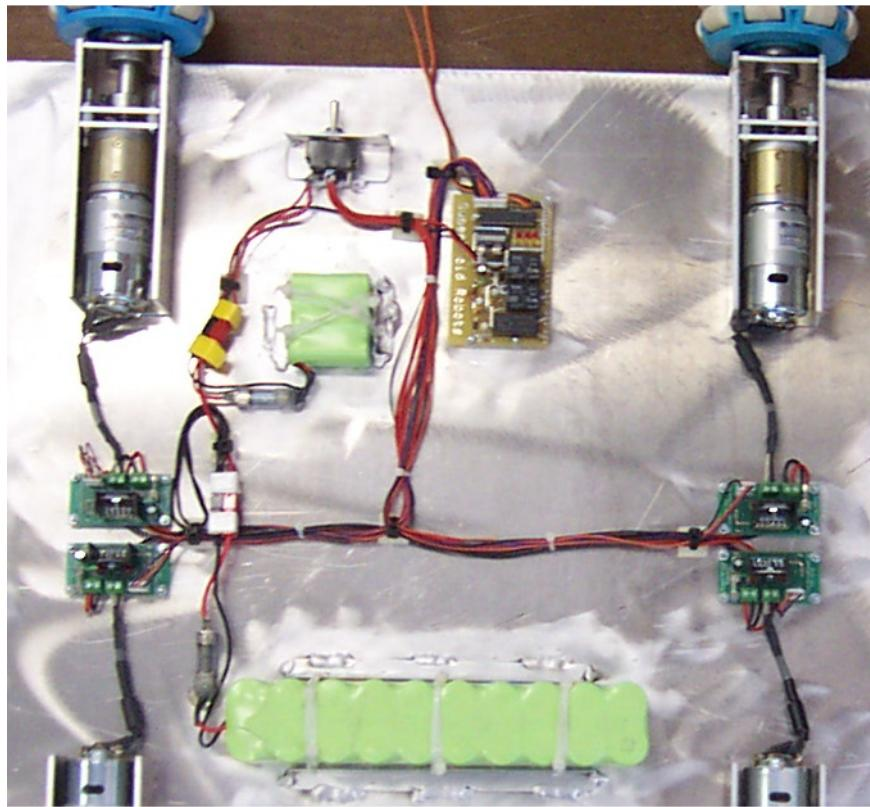
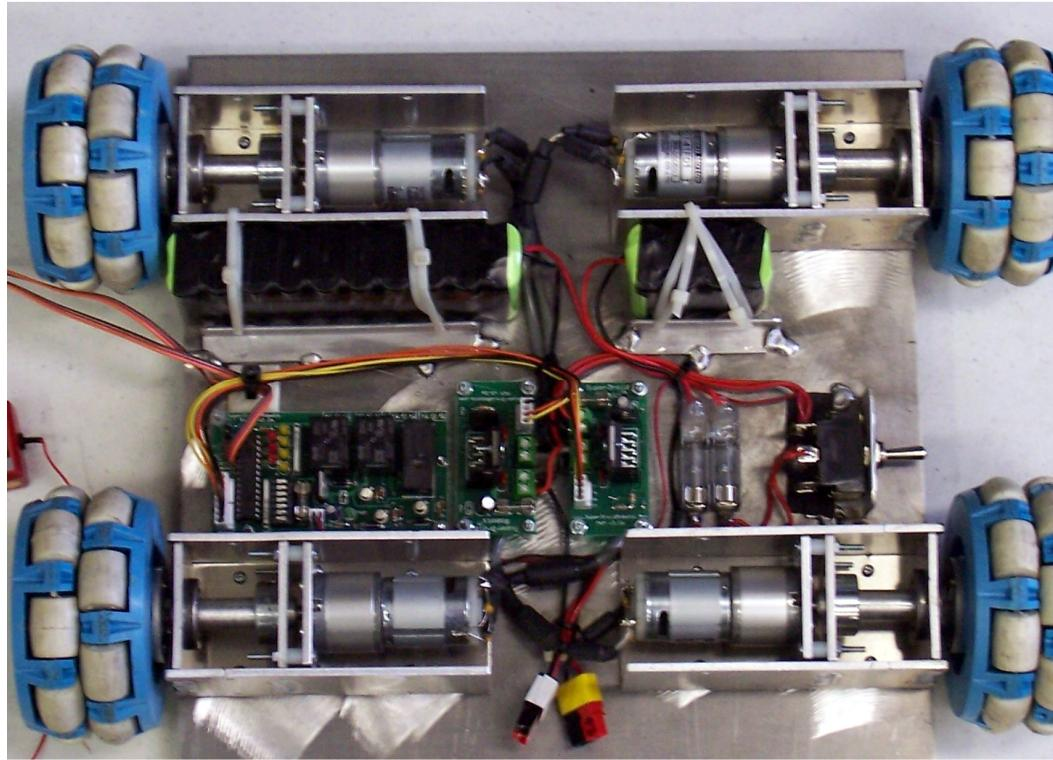
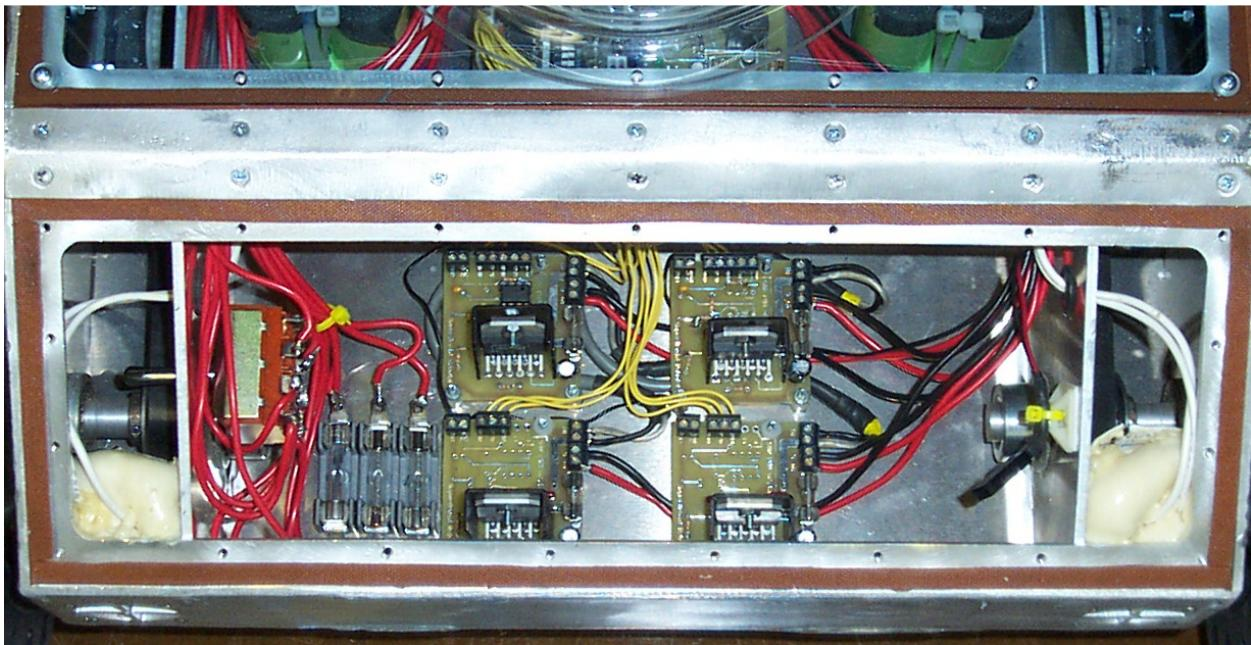
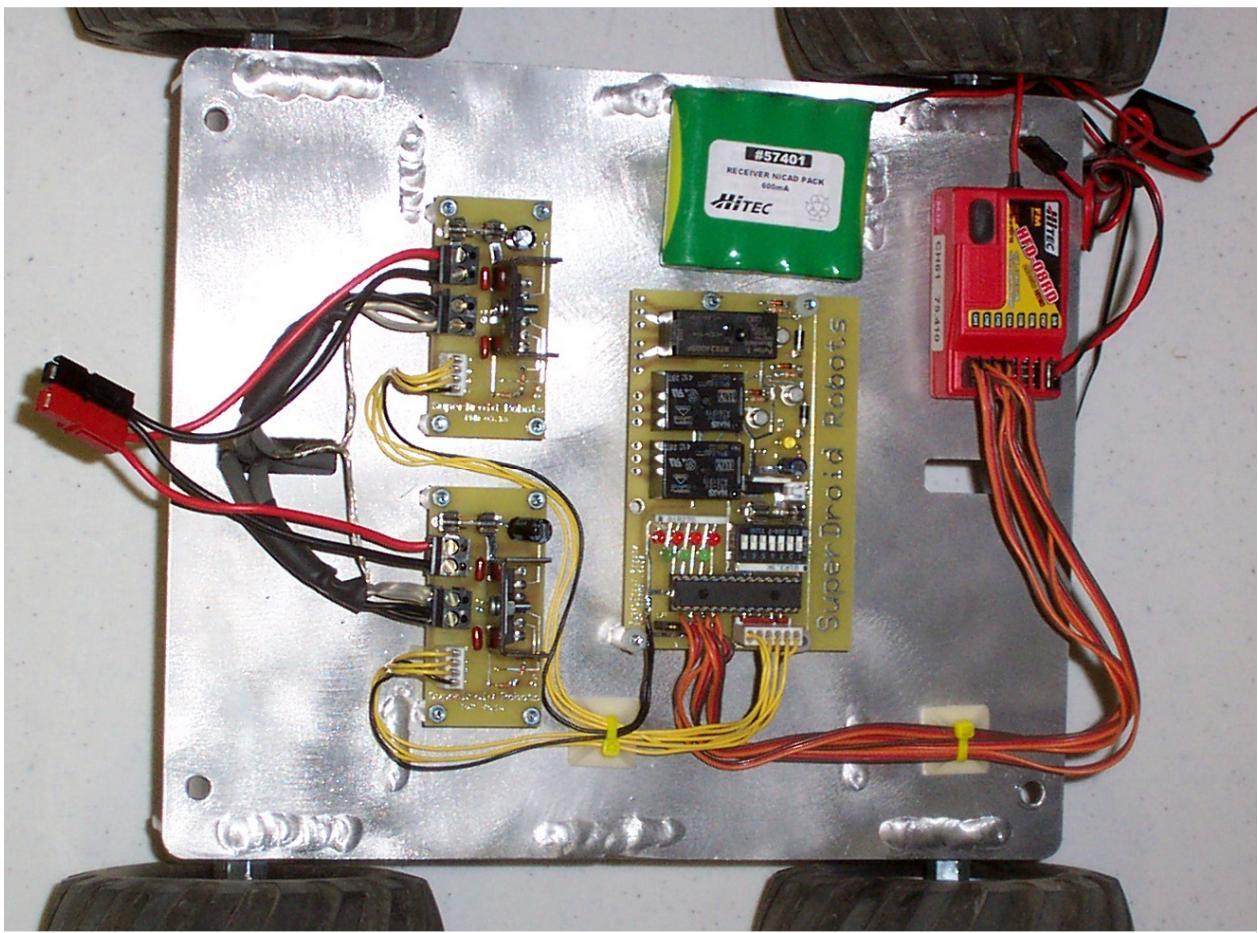

Figure 46: Four PWMs to RC Interface Board Typical Layout
Figure 47: Two PWMs to RC Interface Board Typical Layout
Figure 48: Deluxe ATR PWM mounting
Figure 49: Mini ATR PWM mounting with RC interface board
1. Drill a hole in the inside gusset and mount the switch as shown in Figure 48.
4. See the Figure 46, Figure 47, Figure 48, and Figure 49 for two examples of wiring the controller.